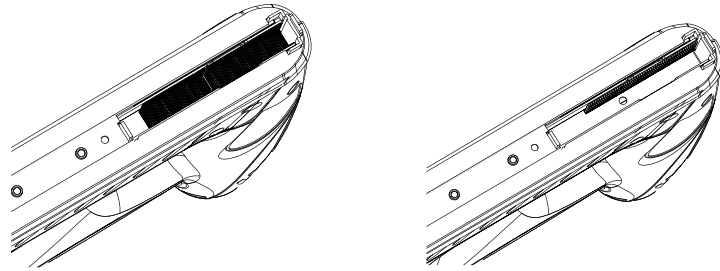

Fig. 2
3. Press the lever (1) in direction of the state nail gauge (6) and pull out the magazine slider
4. Tilt the device and insert a strip of nails into the magazine, the points of nail should be upward. Pay attention to insert it in such a way that the nail strip rests against the left side of the magazine (seen from above) which corresponds to the nail symbol printed on the housing of the tool (Fig. 2). The heads of the nails face into the tool.
5. Push in the magazine slider as far as it will go until the lever (1) audibly snaps in.